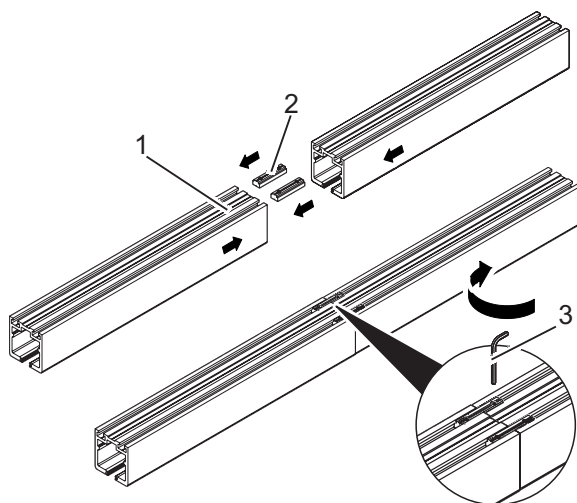

Fig. 3: Mounting the tracks
3. Connect the tracks (Fig. 3/1) using connecting elements (Fig. 3/2) on the floor.
4. Use a 3 mm socket head wrench (Fig. 3/3) to tighten the locking screws of the connecting elements.